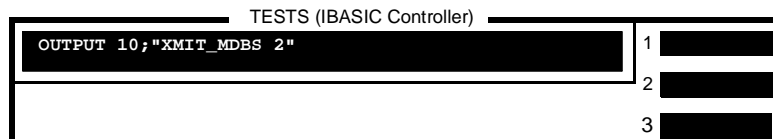

Figure 69
- b. Select (1) **RF Parameters**, or press the k1 key.
- g. Move the cursor to the message block and enter `OUTPUT 10;"XMIT_MDBS 2"`, see figure 69. Use the Test Set's cursor control knob to select each character from the choices menu and then select **DONE**.